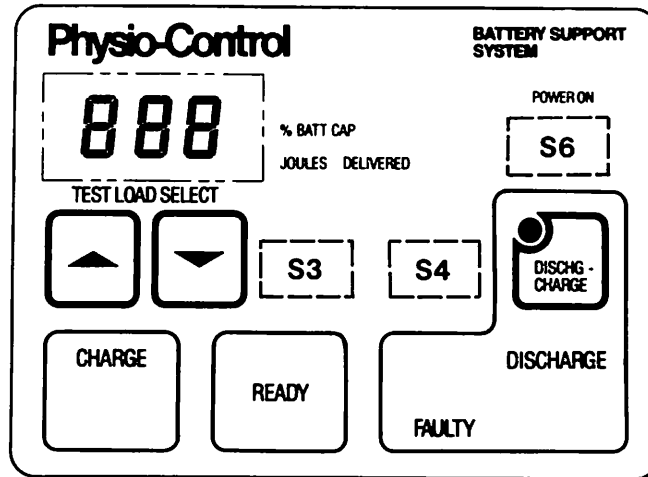

FIGURE 3-3. TEST CONTROL LOCATIONS
- E. Simultaneously press hidden keypad switches S4 and S6 to enter the self-test software (see Figure 3-3).